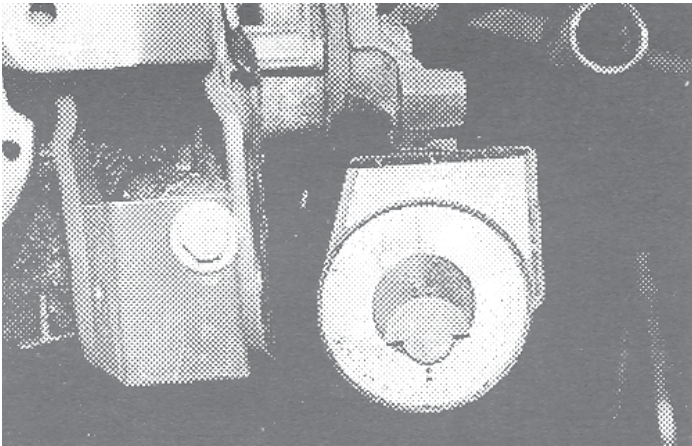

Fig. 21
20. Using an inclinometer, check pinion to transfer case angles. Maximum variance 1 1/2 degrees. Adjust angle by raising or lowering crossmember "R" and differential assembly. **Fig. 21.** Maintain identical engagement heights on "CR" and "CL" with assembly "R".